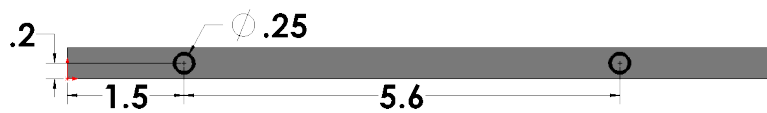

Fig. 11
Step 8. Click **Smart Dimension**  (S) on the Sketch toolbar.
Step 9. Add dimensions as shown in **Fig. 11**. To Smart dimension circle, click the circle then move the cursor out away from circle and click. Key-in **.25** for diameter and press ENTER. To add other dimensions, click circle and edge of body, move cursor just off of body and click. Key in dimension and press ENTER. Arrange the dimensions as shown in **Fig. 11**.